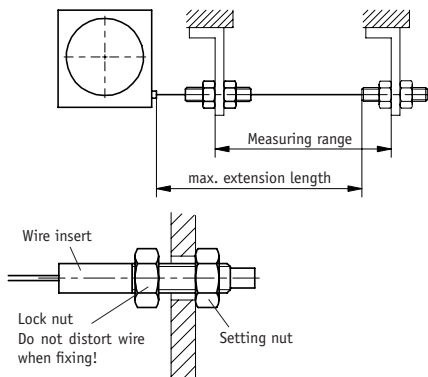

Fig. 2: Extension length check
- After fixing the wire-actuated encoder, check the maximum extension length (see fig. 2). Pull the wire's end piece (wire insert, lock nut and setting nut) or the wire to the intended fixing point. Do not distort the wire!
Pull out the wire perpendicular to the wire outlet (see fig. 2).